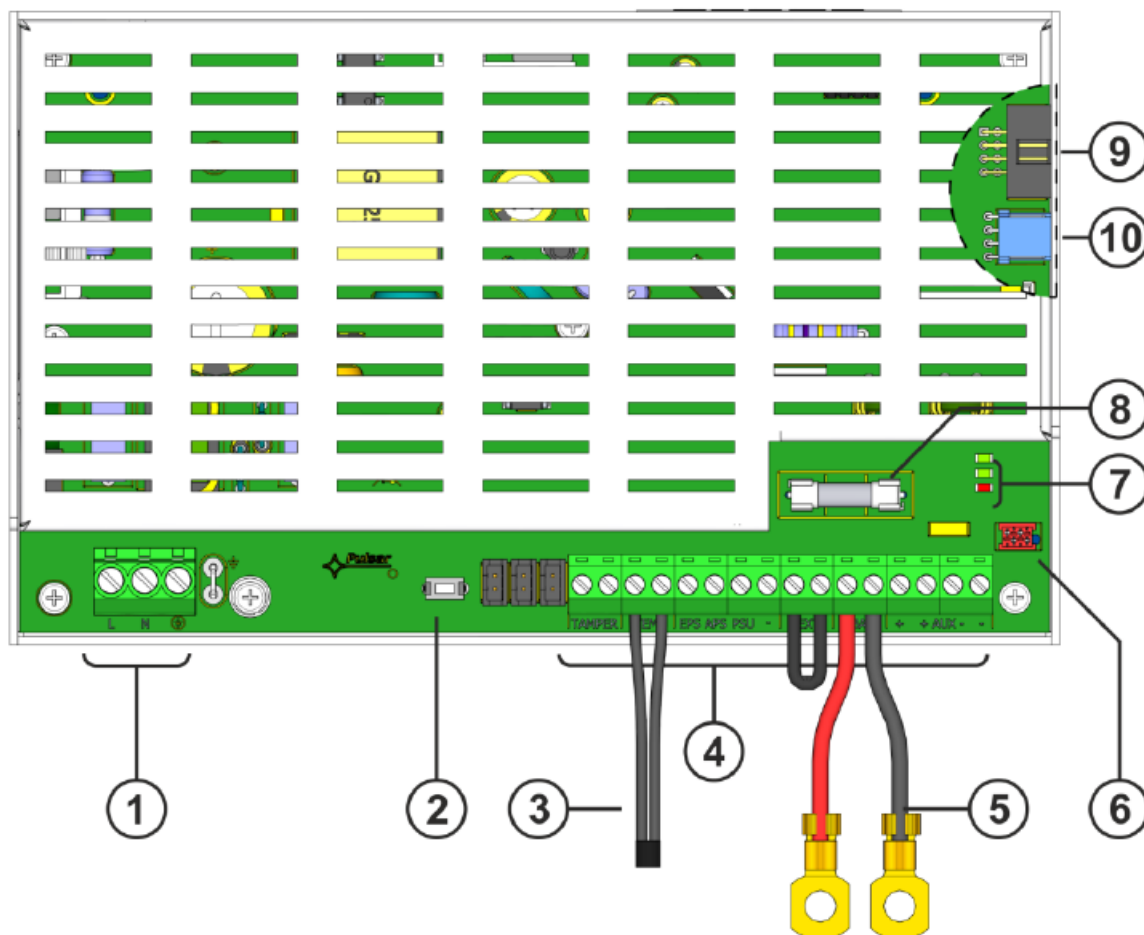

Fig. 2. View of power supply module.
Table 1. Elements of PSU PCB (Fig. 2).
1	PSU module (Tab. 1, Fig. 2)
7. Screw terminals of temperature sensor to "Temp" terminals of PSU (figure 2, point 3). Attach sensor to the battery, e.g. with adhesive tape. For the 27.6V version, it is recommended to place the sensor between batteries.